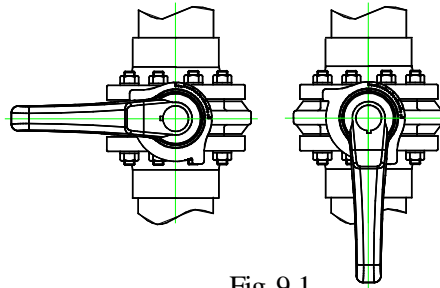

Fig. 9-1
- 2) In case of lever type (40-200 mm {1 1/2"-8"}), the direction of handle is same as the disc as shown in Fig. 9-1.